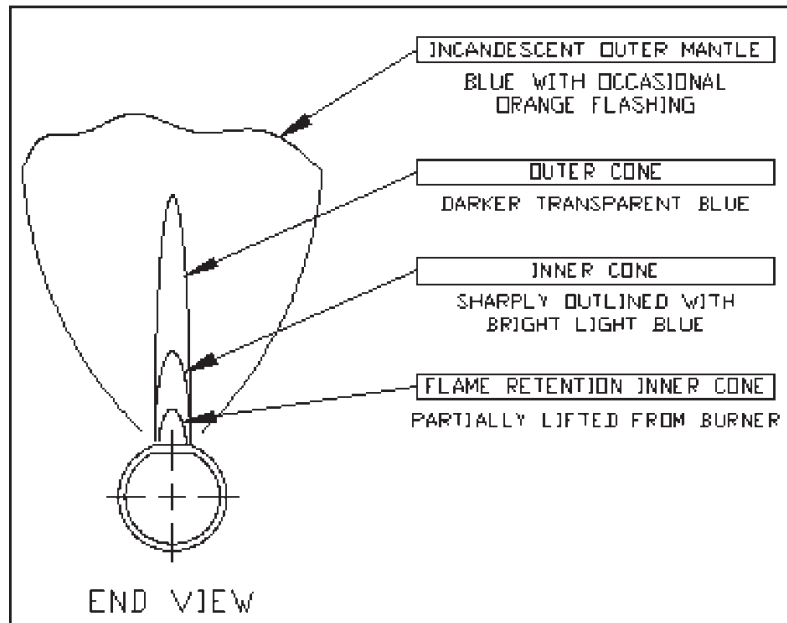

FIGURE 15: MAIN BURNER FLAME - 1" BURNERS
- 13) Inspect the main burner flames visible through the observation port in burner access panel. The flame should be stable and mostly blue (see Figure 15). No yellow tipping should be present; however, intermittent flecks of yellow and orange in the flame are normal.